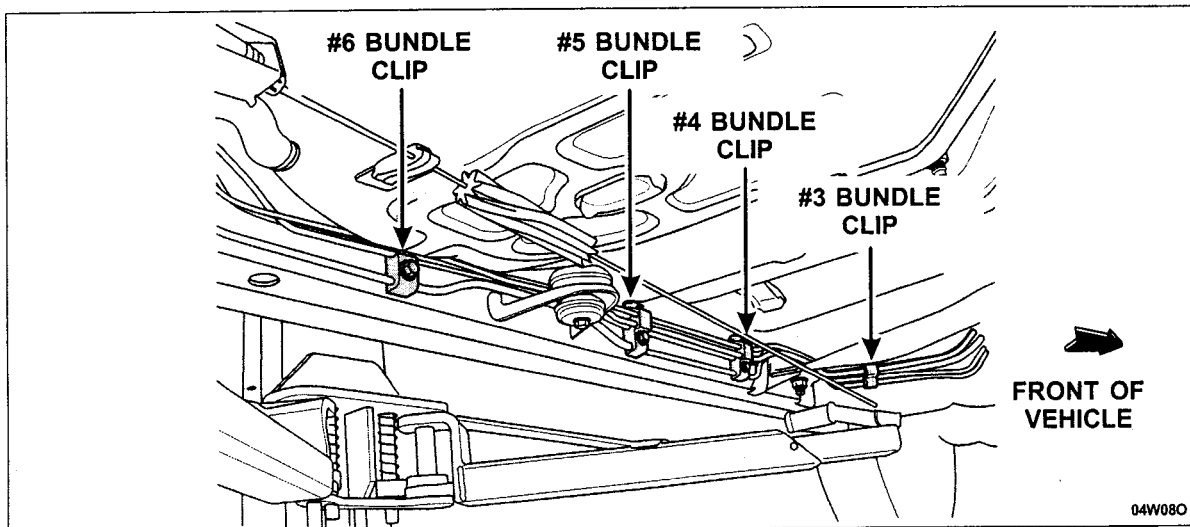

FIGURE 15
18. Remove the bolts for the #3, #4, #5 and #6 bundle clips. See Figure 15.